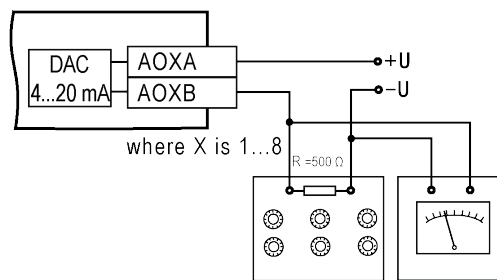

Fig. 4.1 Functional Test
- Connect a voltmeter and a resistor box as shown in *Fig. 4.1*.